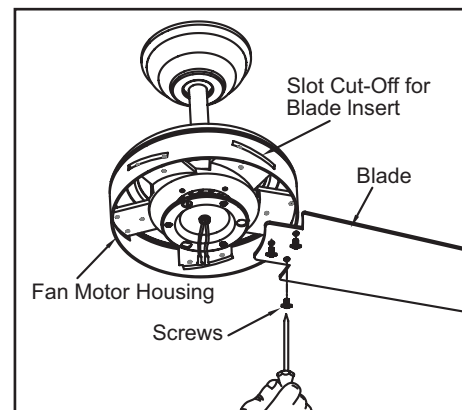

Figure 14
1. Attach the blade to the fan motor housing by inserting the blade into the slot in the side of the fan motor housing and secure using the screws provided as shown in Figure 14. Start a screw into the bracket. Repeat for the two remaining screws.